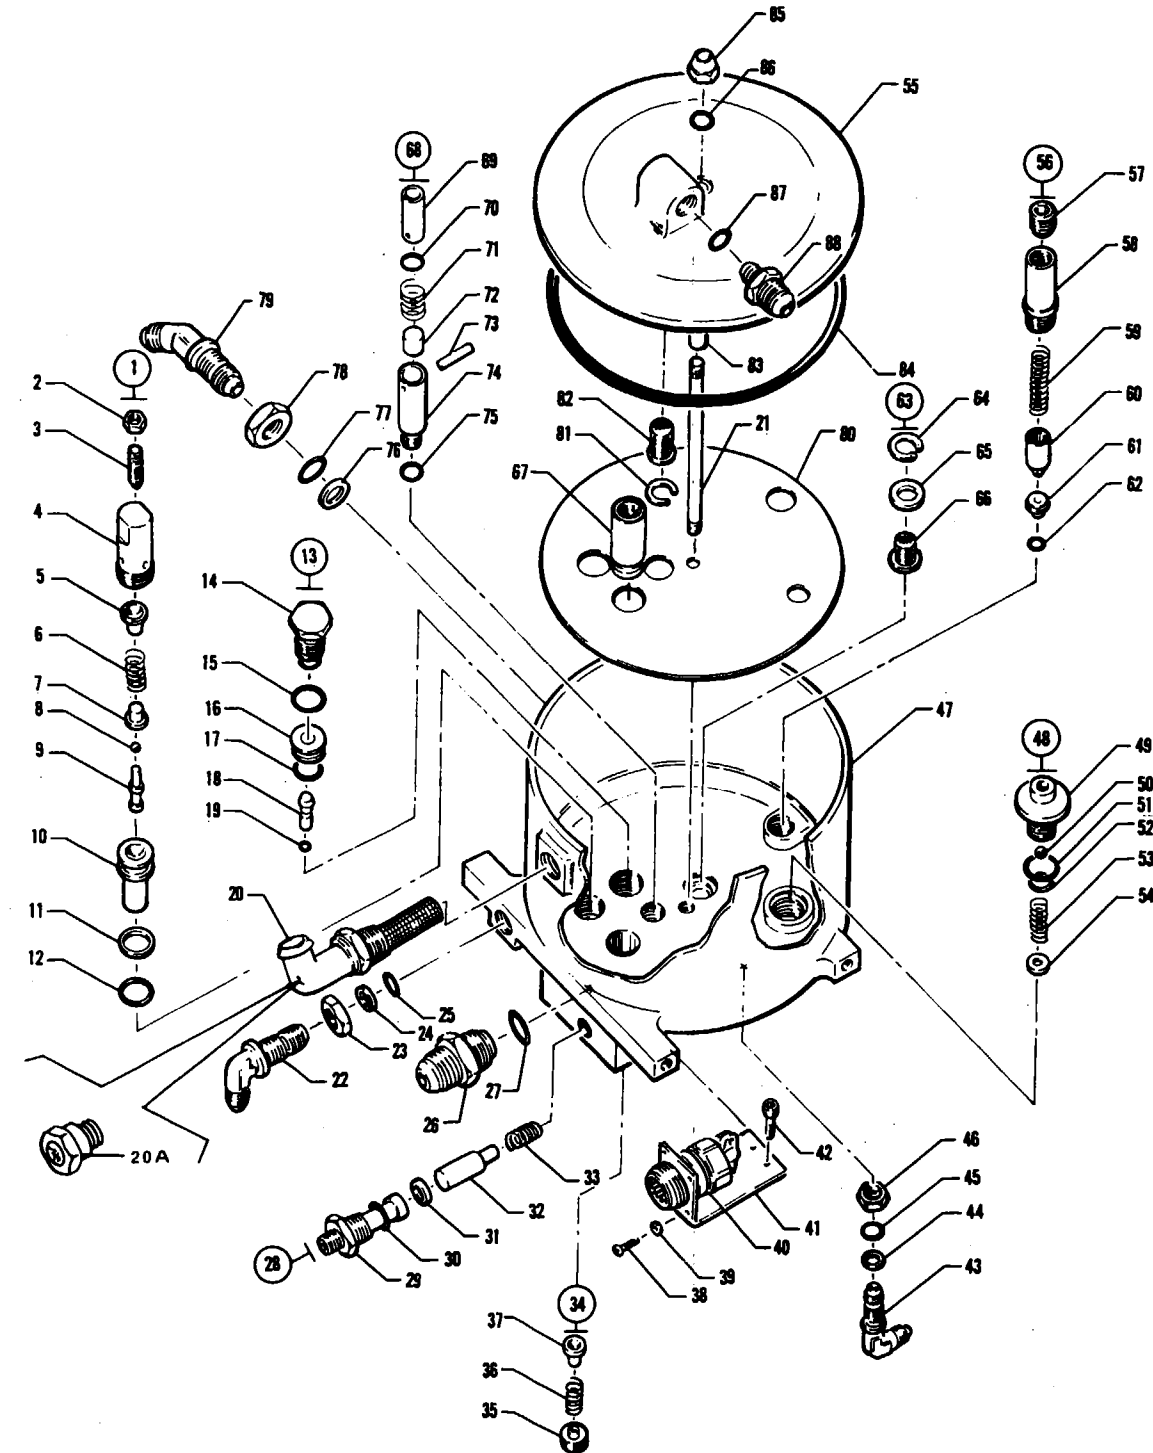

Figure 6-5. Hydraulic Power Pack (Ozone)
6-32. DISASSEMBLY OF POWER PACK. (Refer to Figure 6-5.) After the Power Pack has been removed from the airplane and all ports are capped or plugged, spray with cleaning solvent (Federal Specification P-S-661, or equivalent) to remove all accumulated dust or dirt. Dry with filtered compressed air. To disassemble the unit, proceed as follows:
- f. Remove the landing gear handle-release retainer (17) (adjusting plug), nut (31), spring (18), screw (32), and poppet (20) from the manifold. The end of the poppet has a ball which should remain in the poppet. If it doesn't, remove the ball from the manifold.
- 6-34. DISASSEMBLY OF HAND PUMP SUCTION SCREEN. (Refer to Figure 6-5.)
- a. Remove the suction screen (66) by removing the snap ring (64) and spacer (65).
- 6-35. DISASSEMBLY OF HAND PUMP RELIEF VALVE. (Refer to Figure 6-5.)
- a. Remove the adjusting plug (57) at the top of the hand pump relief valve.
- b. Remove the hand pump relief valve retainer (58) by unscrewing from the body.
- c. Remove the spring (59) and poppet (60) from the body.
- d. Use a brass hook to remove the seat (61) from the body. Use care to prevent scoring the bore.
- e. Remove the "O" ring (62) from the bottom of the cavity.
- 6-36. DISASSEMBLY OF MAIN RELIEF VALVE. (Refer to Figure 6-5.)
- a. Loosen the locknut (2) at the top of the main relief valve.
- b. Remove the adjusting screw (3) and locknut (2) from the top of the relief valve.
- c. Unscrew the retainer (4).
- d. Remove the two buttons (5 and 7), spring (6) and ball (8).
- e. Remove the poppet (9) from the poppet seat (10) by lifting out of the poppet assembly. The poppet and poppet seat are matched parts.
- 6-37. DISASSEMBLY OF PRIORITY VALVE. (Refer to Figure 6-5.)
- a. Remove the priority retainer (14) from the reservoir.
- b. Turn the Power Pack upside down and remove the retainer (35) (adjusting plug), spring (36) and button (37) from the bottom of the Power Pack.
- c. While the Power Pack is upside down, push the poppet (18) and poppet seat (16) into the reservoir, using a punch of .125 inch maximum diameter. Make sure that the face of the punch is square and flat.
- 6-38. DISASSEMBLY OF HAND PUMP CHECK VALVE. (Refer to Figure 6-5.)
- a. Remove the system pressure port fitting (29). The spring (33) and plunger (32) should fall out of the Power Pack after the "O" ring (31) is removed. Use hook, if necessary to remove the "O" ring.